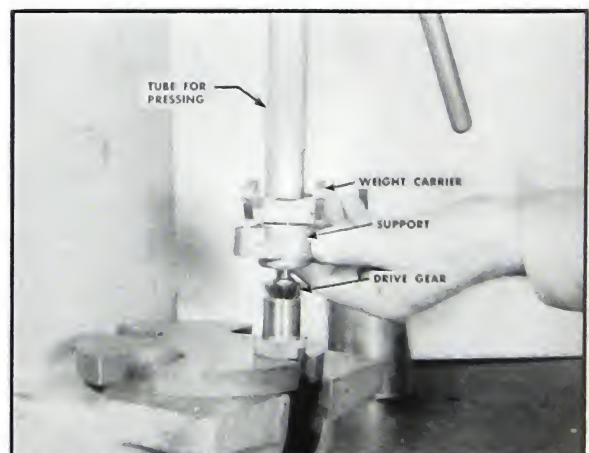

Fig. 5-218. Assembling driving gear
6. Press governor drive gear over the governor shaft. Fig. 5-218. To prevent damage to the governor shaft slide a piece of tubing over the shaft and press on it. A bent shaft will cause an early bearing failure.